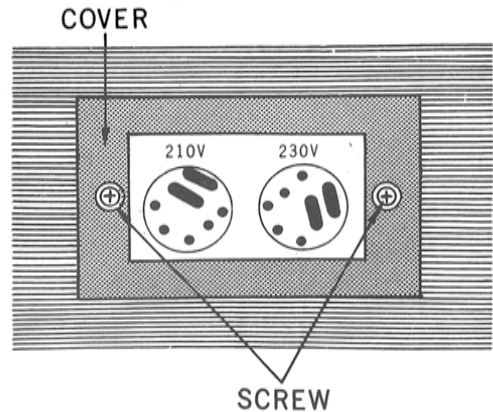

Fig. 2
3. Reinsert the voltage change-over plug to jacks of suitable voltage as shown in Fig. 2.